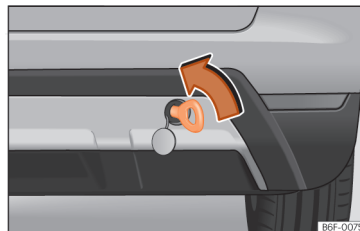

Fig. 100 Right side of the rear bumper: towline anchorage screwed in.
- Screw the towline anchorage into the screw connection as far as it will go »» **Fig. 100** and tighten with the wheel brace.